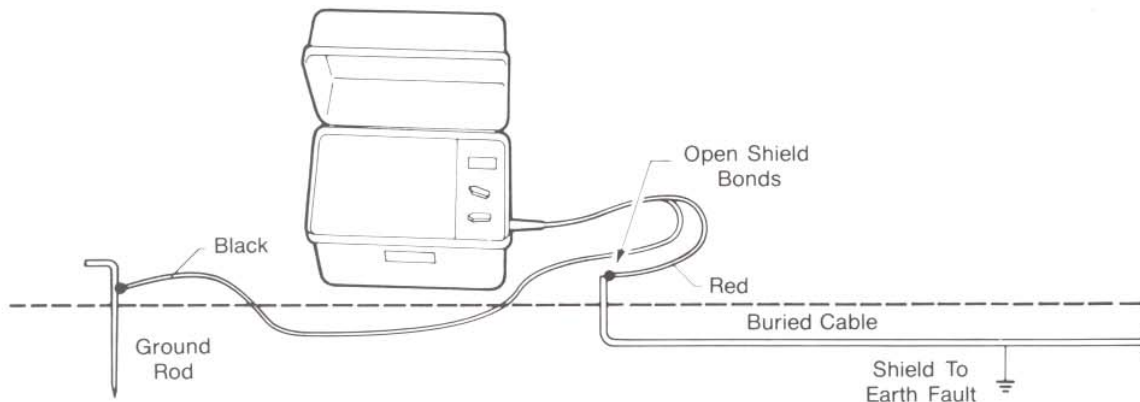

Fig. 14 — 573A/P Transmitter Attachment
- 1) With the cable isolated, plug in the 1284 Direct Connection Transmitter Cable and connect the RED clip to the concentric neutral or conductor and the BLACK lead to the ground rod. The 9043 Extension Cable may be used to extend either lead for operating convenience. Place the ground rod in good soil in line with the fault cable path and behind the transmitter (see Fig. 14).